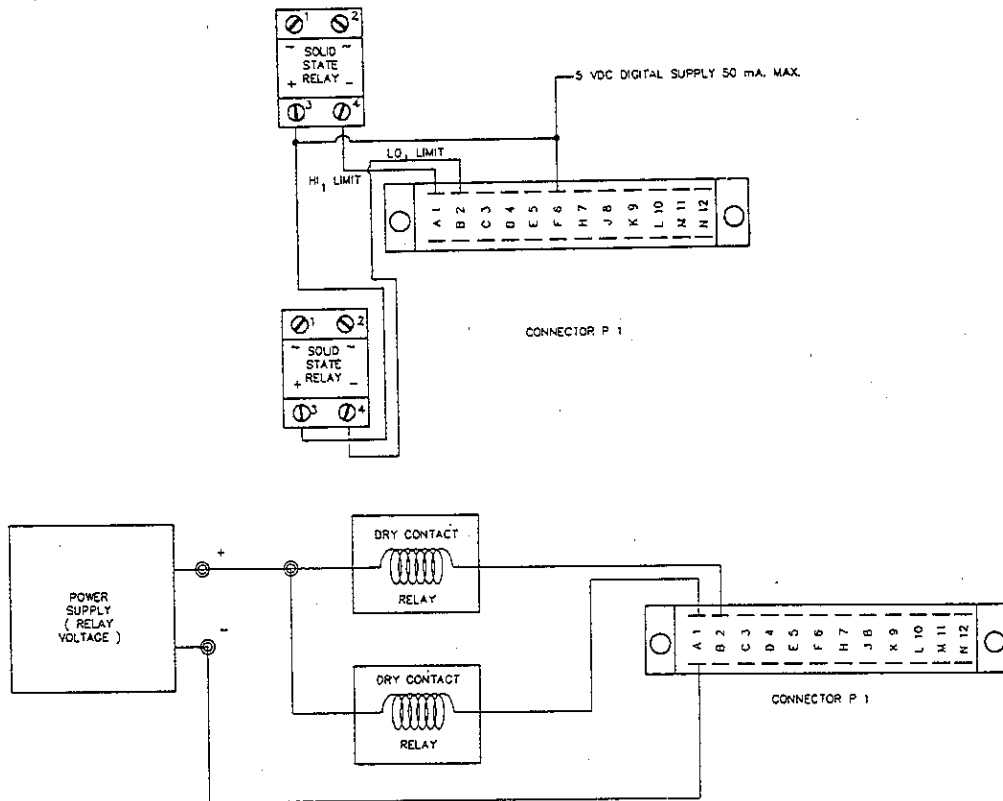

Figure 7.1 - Model 450d Limit Wiring Diagram's
2. Open drain V-MOS FET transistors are provided to drive external relays for the limits. The user should provide either solid state or dry contact relays requiring 36 volts or less at a current not exceeding 200ma. Figure 7.1 depicts the suggested wiring to the Model 450D. A protection zener diode is mounted across the transistor rated at 43V ± 10% at 1 watt.